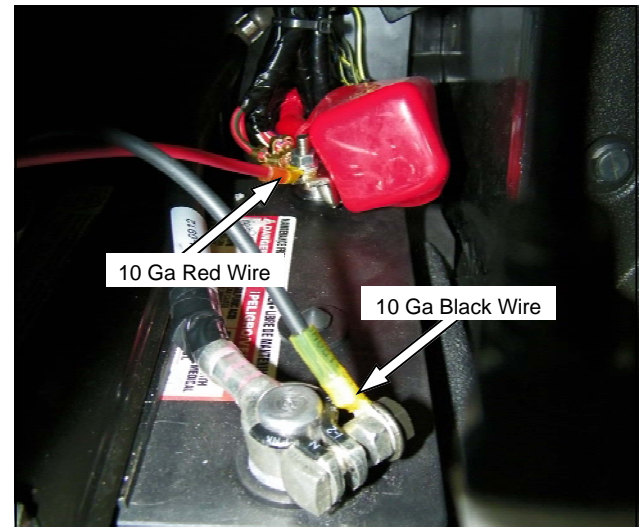

Fig. 7
7. Attach 10 Ga. Black ground wire to the 1/4"-20 x 1" long hex head cap screw used to attach 10 Ga. Black wire from battery harness. Attach solenoid to vehicle frame by passing hex head screw through the hole unplugged in step 5 and secure with 1/4"-20 hex nut. As shown in figure 7.